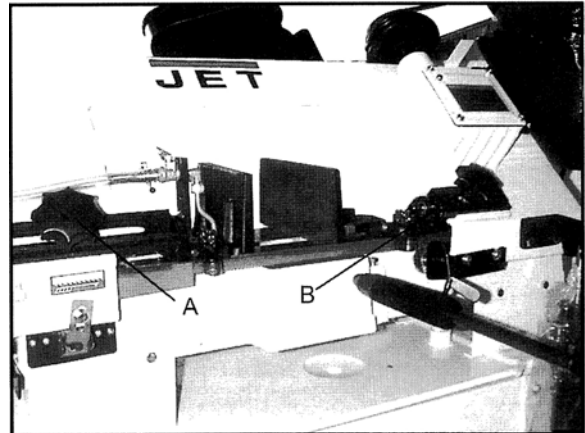

Figure 11
2. Loosen knob (A, Figure 11) and bolt (B, Figure 11). Slide blade guide assemblies as close as possible to material without interfering with the cut.
3. Tighten knob (A, Figure 11) and bolt (B, Figure 11) and connect machine to power source.